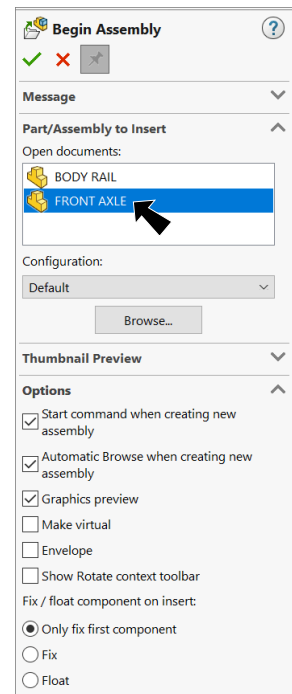

Fig. 3
Step 6. Back in the Begin Assembly Property Manager: under Part/Assembly in Insert, **Fig. 3** select **FRONT AXLE** to highlight it.